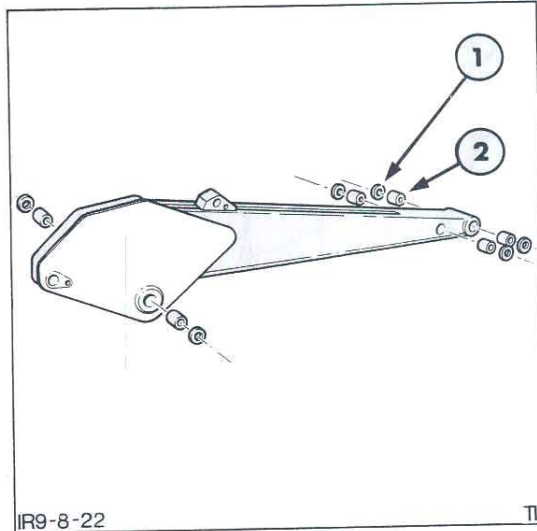

Figure 23
2. Inspect the dipstick pivot pins, bushes and seals for wear and replace as necessary. For location of bushes and seals refer to Figure 23. If worn pry out the seals and remove the bushings using a suitable puller.